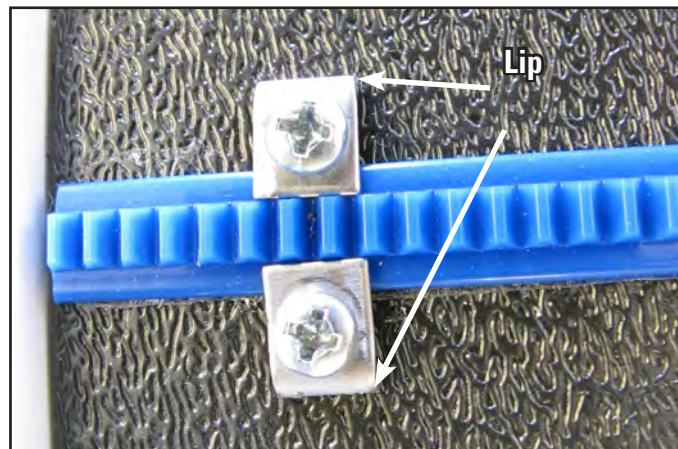

Figure 3.5
5. At the ends of the blue Flexirack, use the four small metal clamps (*Page 3.3, B*) to hold the ends firmly in place (**Figure 3.5**). The clamps have a hole through the center and a lip on one end. The lip should be on the side opposite the blue Flexirack. Drill pilot holes using the 3/32" drill bit and then attach the clamps as shown on either end of the blue Flexirack using a Phillips screwdriver.